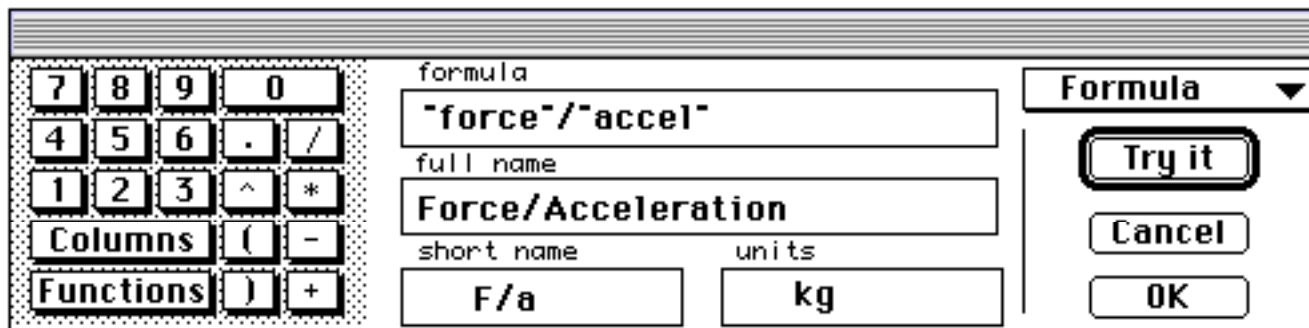

Figure 7. Display for defining the function F/a
- You can now define, name, and label the lower graph by clicking in the appropriate boxes and entering the names shown in Figure 7. The resulting *MacMotion* graph should look like Figure 8. **Note:** Don't forget to put the quotes "... " around **force** and **accel** in the formula field!